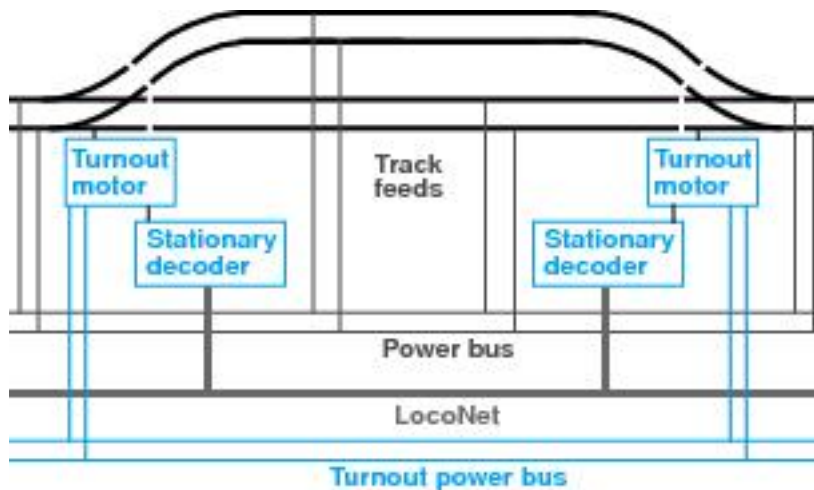
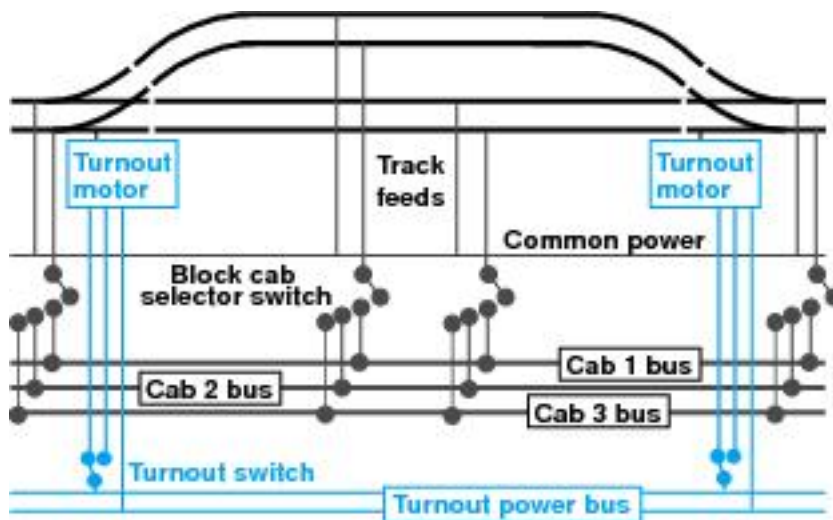

Figure 4-5: DCC wiring for Norcross Southern
Figure 4-6: Conventional wiring comparison for Norcross Southern
**Figure 4-5** is a diagram of a portion of the schematic showing the rails, rail power feeds, turnouts, turnout power feeds and the LocoNet cable. **Figure 4-6** shows the same area as it would be wired for conventional control. Note that there is no LocoNet cable, but look at all those cab control wires and block selector switches. To keep it simple, the diagram shows wiring for only three cabs, not the four or five that would be needed for the Norcross Southern! These two diagrams demonstrate the wiring simplification achieved in the real world by using DCC. From these two diagrams you can see that DCC and analog control need almost exactly the same wiring for power distribution and that this wiring is fairly simple. DCC uses enormously simplified wiring for control when compared with conventional methods.